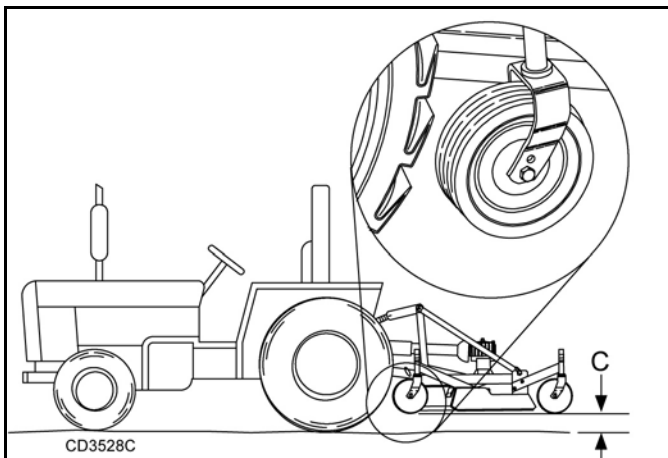

Figure 5. Front Caster Wheel Interference Check
1. Raise mower with tractor hydraulics to 16" at dimension C, Figure 5, or maximum height of tractor lift, whichever is less.